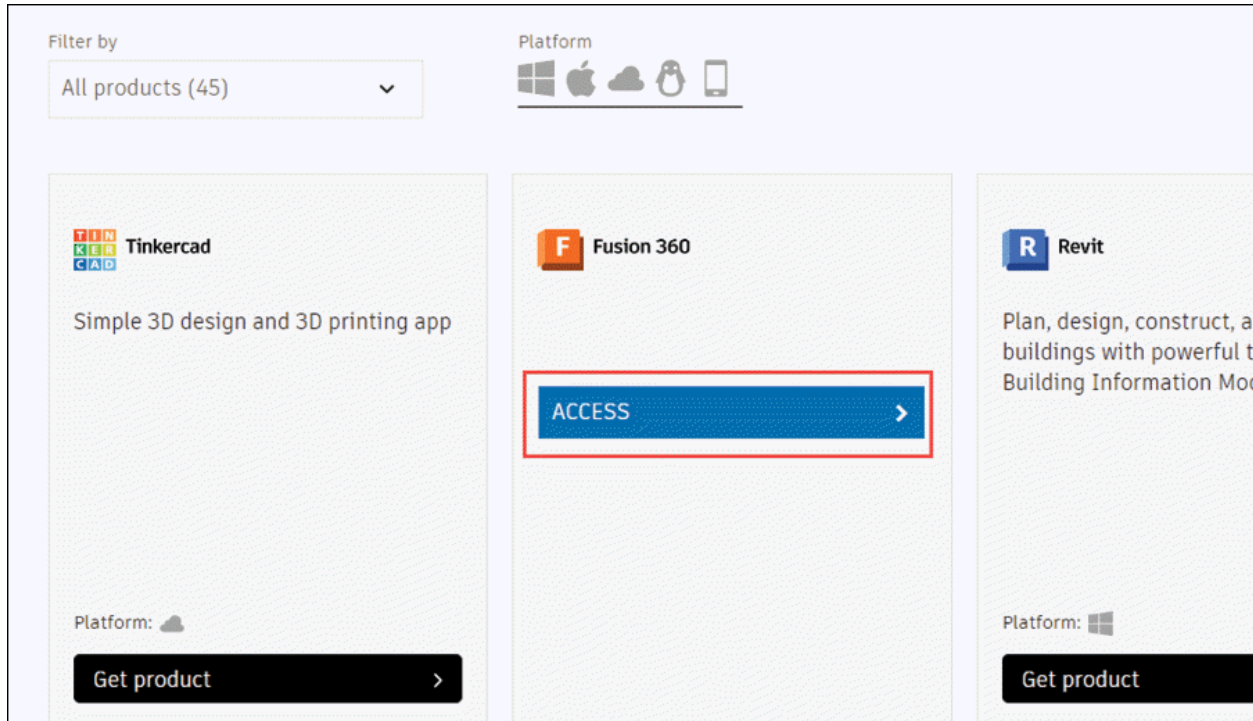

Figure-6. Access button
- Click on the **Get product** button below the software name. The **Access** button will become active; refer to Figure-6. Click on this button to download the **Autodesk Fusion 360 software**.